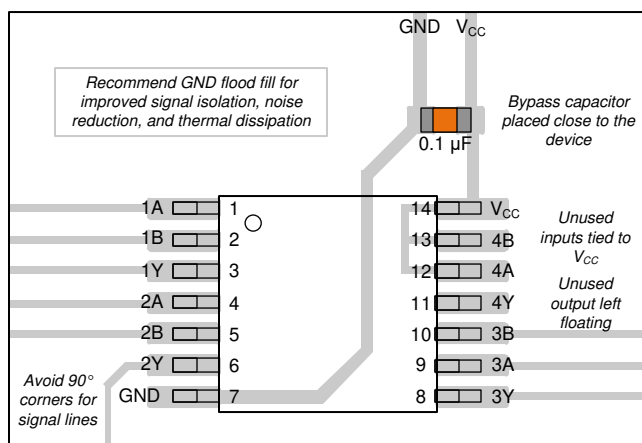

Figure 8-3. Example Layout for the SN74LVC132A-Q1
1. Add a decoupling capacitor from  $V_{CC}$  to GND. The capacitor needs to be placed physically close to the device and electrically close to both the  $V_{CC}$  and GND pins. An example layout is shown in the Figure 8-3.
The power supply can be any voltage between the minimum and maximum supply voltage rating located in the Recommended Operating Conditions. Each  $V_{CC}$  terminal should have a bypass capacitor to prevent power disturbance. A  $0.1\mu\text{F}$  capacitor is recommended for this device. It is acceptable to parallel multiple bypass caps to reject different frequencies of noise. The  $0.1\mu\text{F}$  and  $1\mu\text{F}$  capacitors are commonly used in parallel. The bypass capacitor should be installed as close to the power terminal as possible for best results, as shown in Figure 8-3.